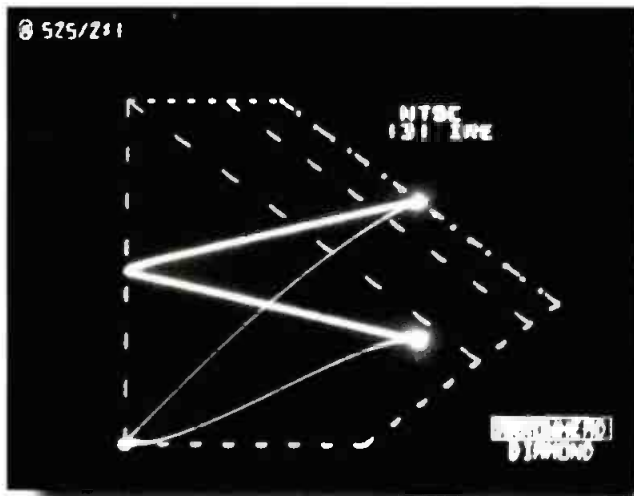

Figure 2. Arrowhead display of a signal with excessive chrominance (131 IRE).
• **Character generator and digital video effects monitoring:** The suggested method is to use the arrowhead display (see Figure 2) and program the waveform monitor to alert the operator if any chrominance components exceed 110 IRE when encoded into analog composite NTSC. When this happens, with the